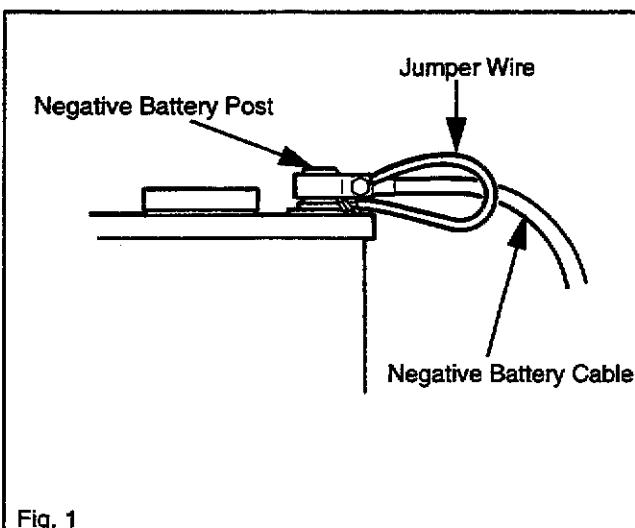

Fig. 1
4. Use a jumper wire to connect the negative battery cable to the negative battery post. Refer to Fig. 1.